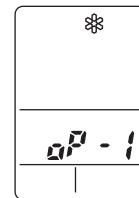

Fig. 30
- d) \ast appears and “oP-1” blinking in the remote controller clock display area. (Fig. 30)